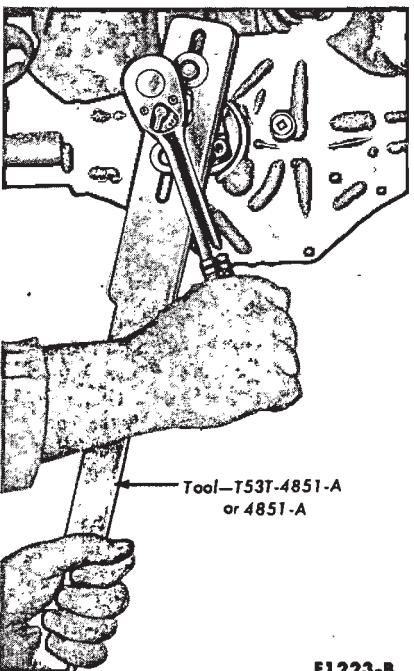

FIG. 11—Typical Drive Pinion Flange Removal
6. Using the tool shown in Fig. 11, remove the pinion U-joint flange.
6. Using the tool shown in Fig. 11, remove the U-joint flange.
14. Remove the pinion flange (Fig. 11).